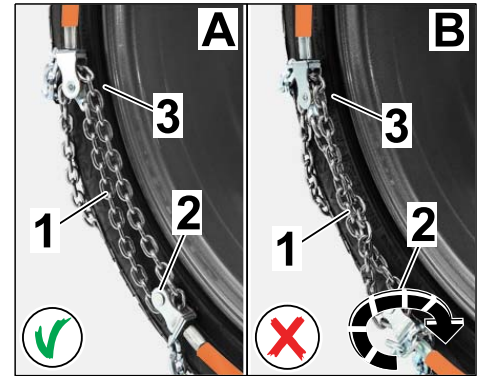

Figure 8
2.2.2 Check that the tensioning chain is running parallel at the tensioning point and deflection roller (end of spring steel clip on inside of wheel) ⇒ *Figure 8-A-* and is **2NOT** twisted ⇒ *Figure 8-B-*.
Turn deflection roller for spring steel clip if necessary (⇒ *Figure 8-B, arrow-*).